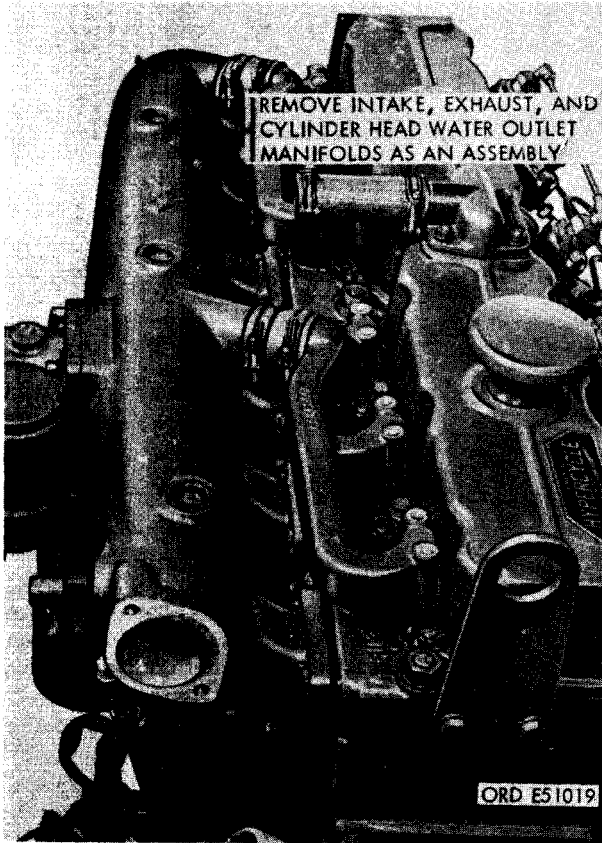

FIGURE 171. REMOVING OR INSTALLING INTAKE, EXHAUST, AND CYLINDER HEAD WATER OUTLET MANIFOLDS AT CYLINDER HEAD ASSEMBLIES - TOP VIEW.
- (6) Refer to figure 171 and remove intake, exhaust and cylinder head water outlet manifolds as a unit.